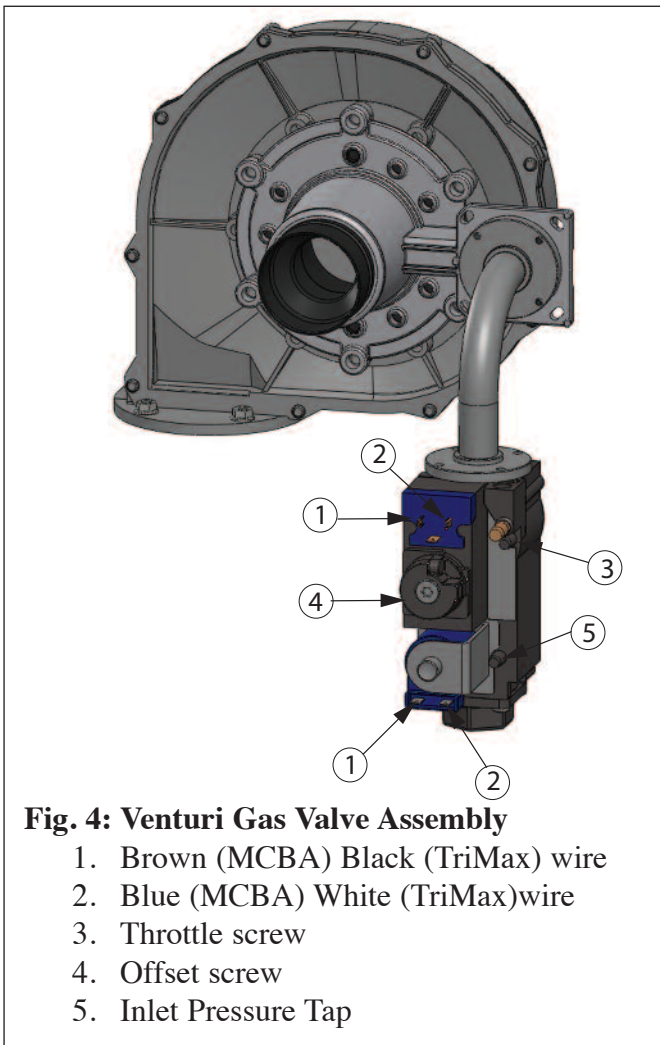

Fig. 4: Venturi Gas Valve Assembly
12. Reconnect the wires to the gas valve as shown in Fig.4.
2. If the combustion levels during High fire are outside the recommended combustion settings adjust the THROTTLE SCREW (see Fig. 4) as follows:
4. If the combustion level during Low fire is not within +/-0.2% of the combustion level measured at High fire, adjust the OFFSET SCREW below the cap on the gas valve (see Fig. 4) as follows.
6. If the combustion levels during High fire are outside the recommended combustion settings adjust the THROTTLE SCREW (see Fig. 4) as follows:
8. If the combustion level during Low fire is not within +/-0.2% of the combustion level measured at High fire, adjust the OFFSET SCREW below the cap on the gas valve (see Fig. 4) as follows: